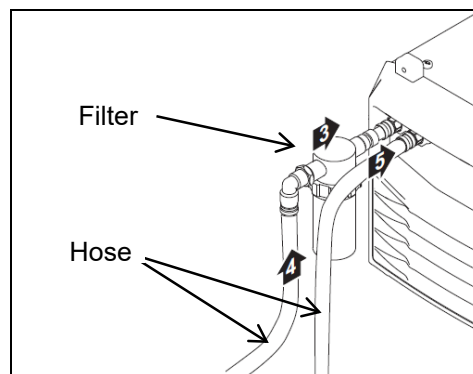

Fig. 7.2 (a) Connection to the water cooling unit
- 1 Remove the hoses and the filter connected to the water cooling unit referring to Fig. 7.2 (a).